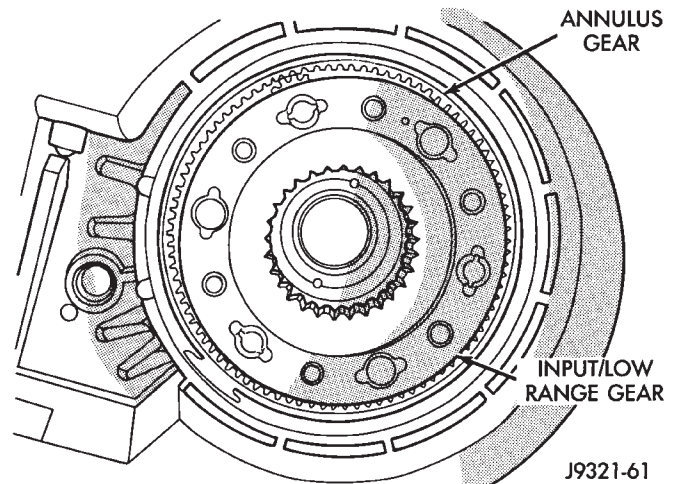

Fig. 53 Input/Low Range Gear Installation
(1) Align and install low range/input gear assembly in front case (Fig. 53). Be sure low range gear pinions are engaged in annulus gear and that input gear shaft is fully seated in front bearing.